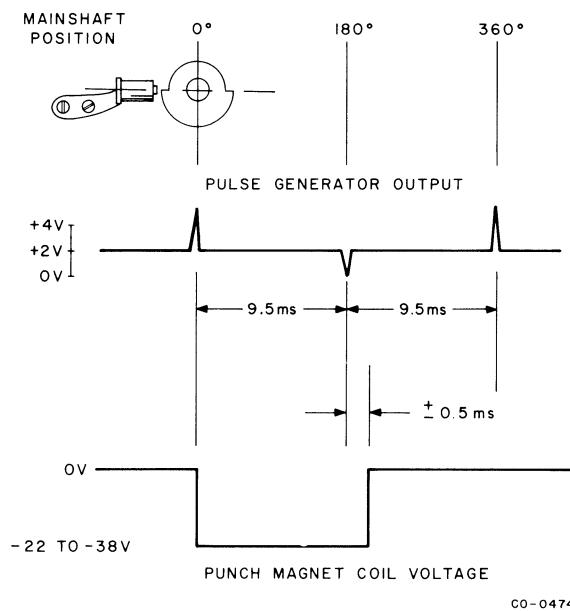

Figure 5-10 Electrical Parameters
5.4.4 Electrical Parameters (see Figure 5-10)